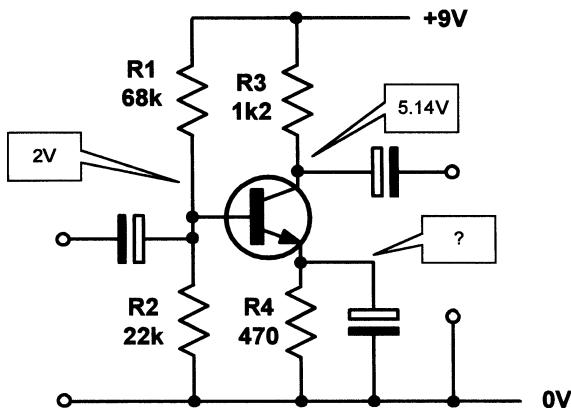

Figure A2.19
39. Figure A2.19 shows the circuit of a common-emitter amplifier stage. Determine the values of  $I_B$ ,  $I_C$ ,  $I_E$  and the voltage at the emitter. [Page 130]